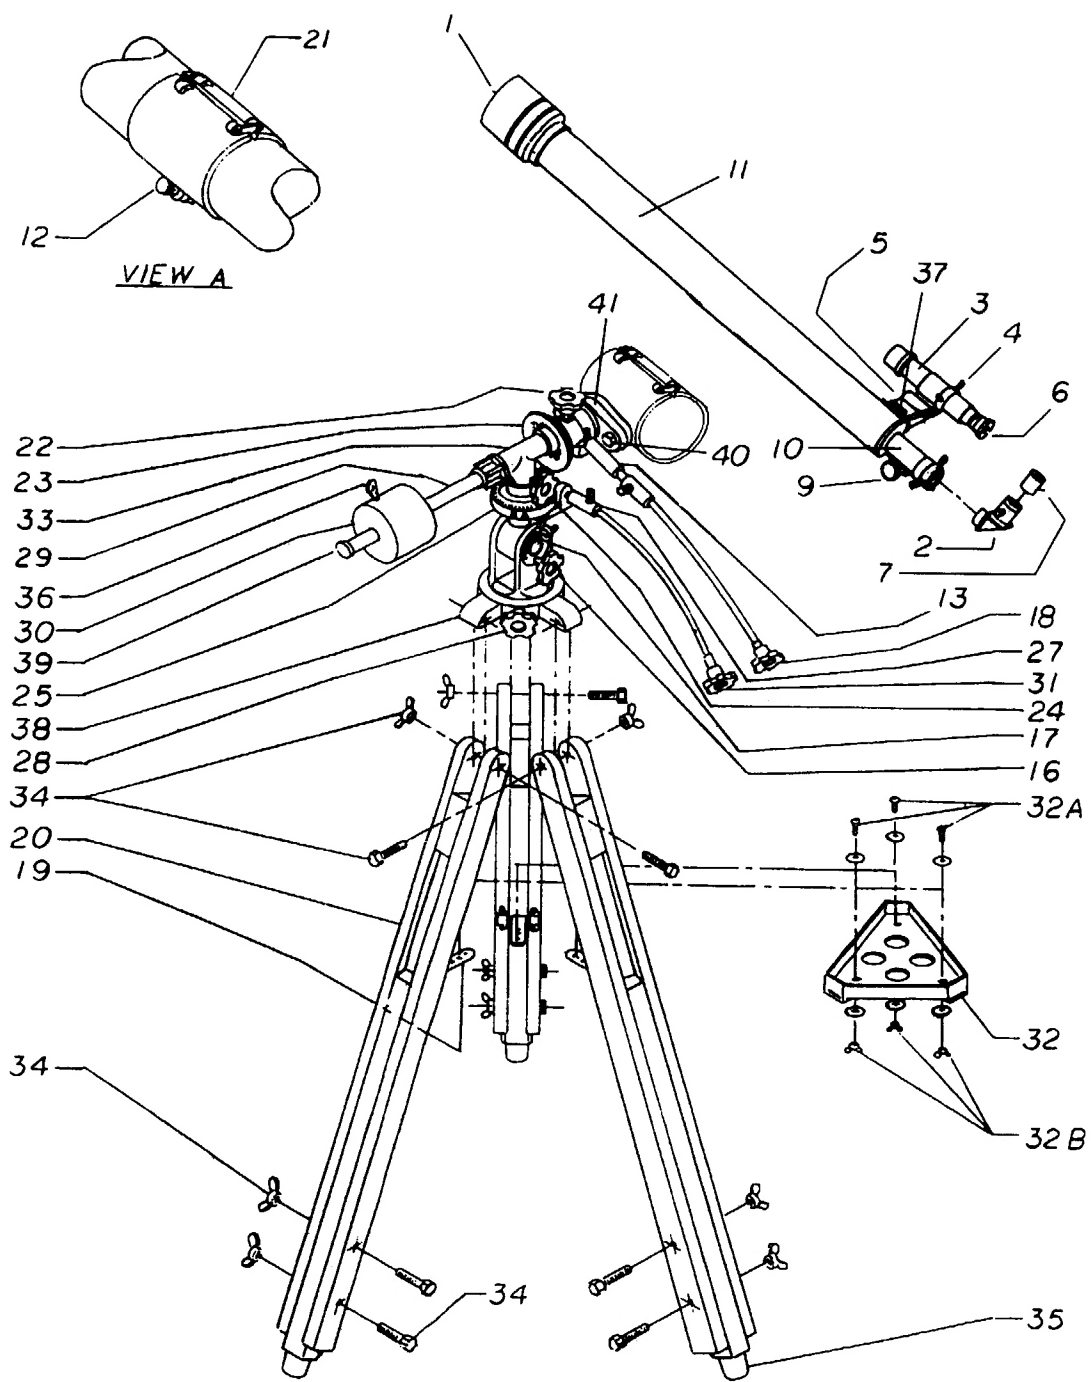

Figure 1
Identifying Parts of Figure 1
Please refer to figure 1 (and the identifying parts list) as you assemble the telescope.
B. Before proceeding further, locate knobs #16, #22, #24 and #28 and tighten all of them finger tight after orienting the mount as illustrated in figure 1.
4. Slide the counterweight shaft (#29) through the counterweight (#30). Use the counterweight lock (#36) to lock the counterweight in place. By holding the counterweight in one hand, thread the counterweight shaft clockwise into the equatorial mount (#33) as shown in figure 1.
1. Remove the two bolts (with the supplied wrench) and washers (#40) from the telescope tube mount bracket (#21). Put the bolts through saddle bracket (#41), as shown in Figure 1, into the telescope tube mount bracket and tighten.
2. Loosen the tube mount bracket (#21) with the knob (#12) and open the bracket. Hold the tube in the orientation as noted in figure 1. Holding the optical tube in place with one hand, close the tube mount bracket and tighten the bracket knob to firmly hold the optical tube. NOTE: The optical tube may come already mounted in the bracket